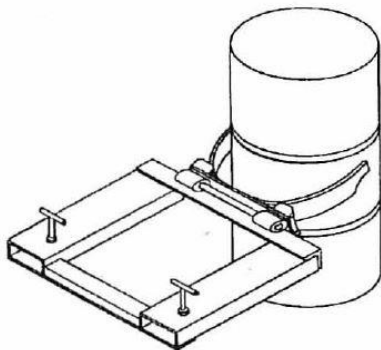

Figure 2.
6. Move the unit forward onto the drum, lowering jaws slowly as you move. Jaws will open and close around the drum. (Figure 2.).